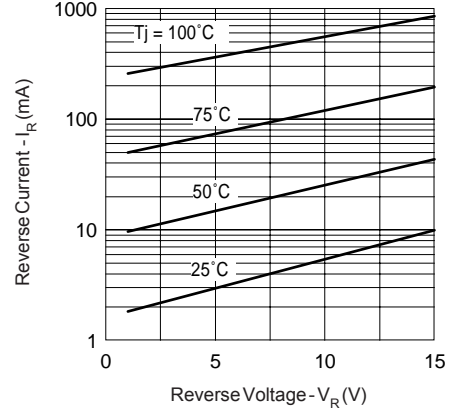

Fig. 2 - Typical Values Of Reverse Current Vs. Reverse Voltage (Per Leg)
| $I_{RM}$ Max. Reverse Leakage Current (Per Leg) * See Fig. 2 (1) | 20    | mA               | $T_J = 25^\circ\text{C}$$V_R = \text{rated } V_R$                   |